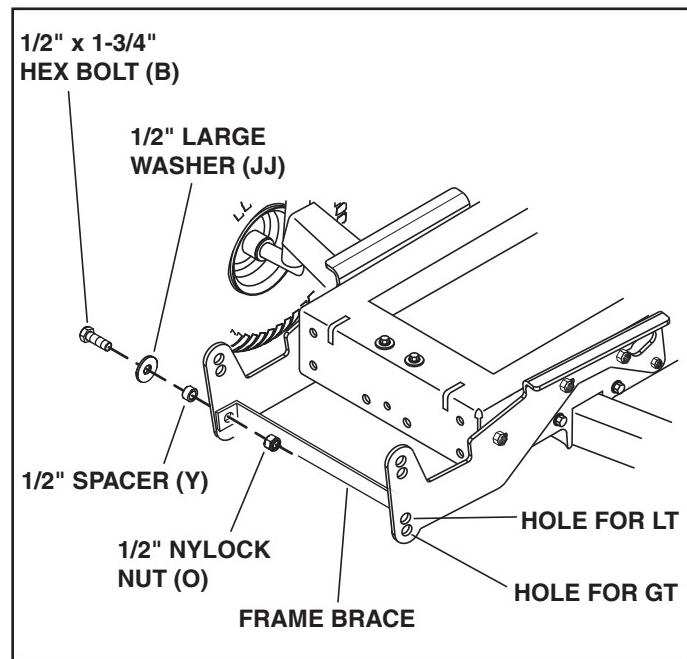

FIGURE 20
STEP 21: INSTALL FRAME BRACE (SEE FIGURE 20)
- Install the frame brace to the inside of the side plates using two 1/2" x 1-3/4" bolts (B), large 1/2" washers (JJ), 1/2" spacers (Y) and 1/2" nylock nuts (O). Install the brace in the bottom holes for Garden (GT) Tractors and the second from bottom holes for Lawn (LT) Tractors. **Do not tighten yet**.